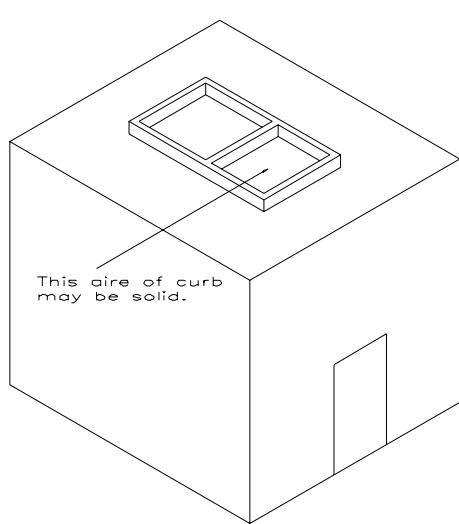

Figure 4. Curb placed on roof of box.
1. Units must be curb mounted (Figure 4 ~ 5). Cabinet size refers to dimension size on page 5.